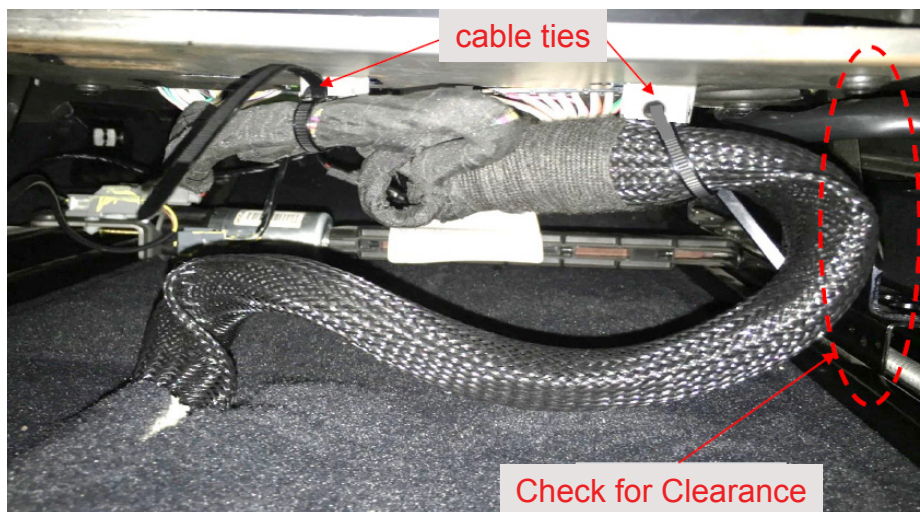

fig. 1b
- Lift the seat enough to view the harness as shown below (fig. 1b).